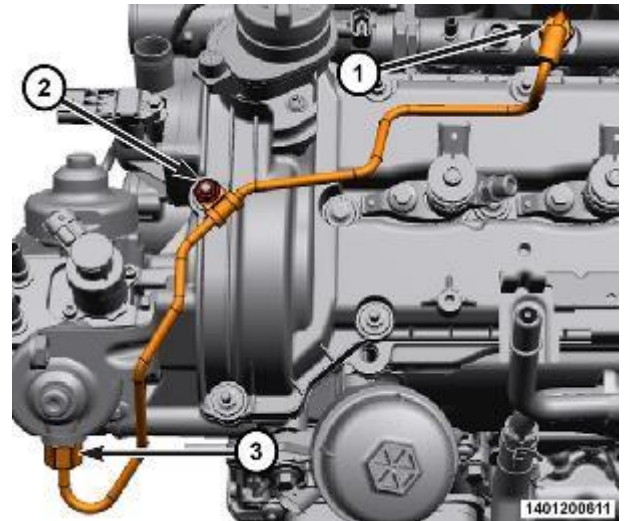

Figure 187 – Left Fuel Rail Supply Tube
24. Unscrew the fuel tube union nut from the fuel injection pump (3) (Figure 187).
25. Remove the fuel tube bracket nut (2) securing the fuel tube (Figure 187).
26. Unscrew the union nut from the fuel rail (1) and remove and discard the fuel tube (Figure 187).